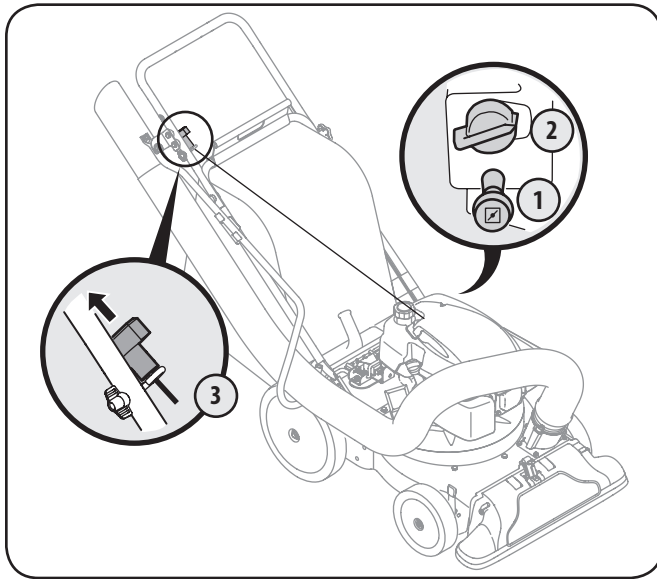

Figure 5-1
1. Pull out the choke knob located on the engine. See Fig. 5-1 inset.
2. Turn the engine switch to on. See Fig. 5-1 inset.
3. Pull the starter grip lightly until resistance is felt, then pull rapidly to overcome compression, prevent kickback and start the engine. See Fig. 5-1 . If engine does not start after ten seconds of repeated pulls, wait a few minutes and repeat.